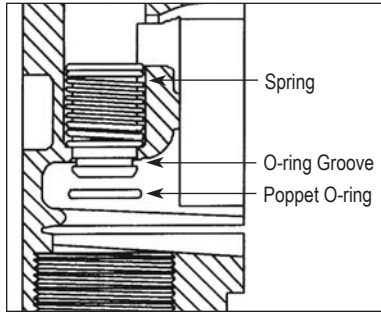

Figure 8
- b. Remove the O-ring with a small screwdriver or similar tool. Take care not to damage the poppet or O-ring. (Figure 8)